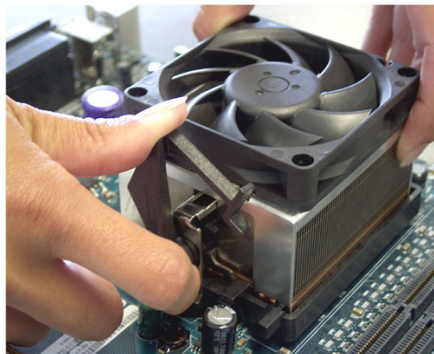

Figure 17. Turning the Cam Lever
19. Carefully turn the cam lever to its installed position. (See Figure 17.)